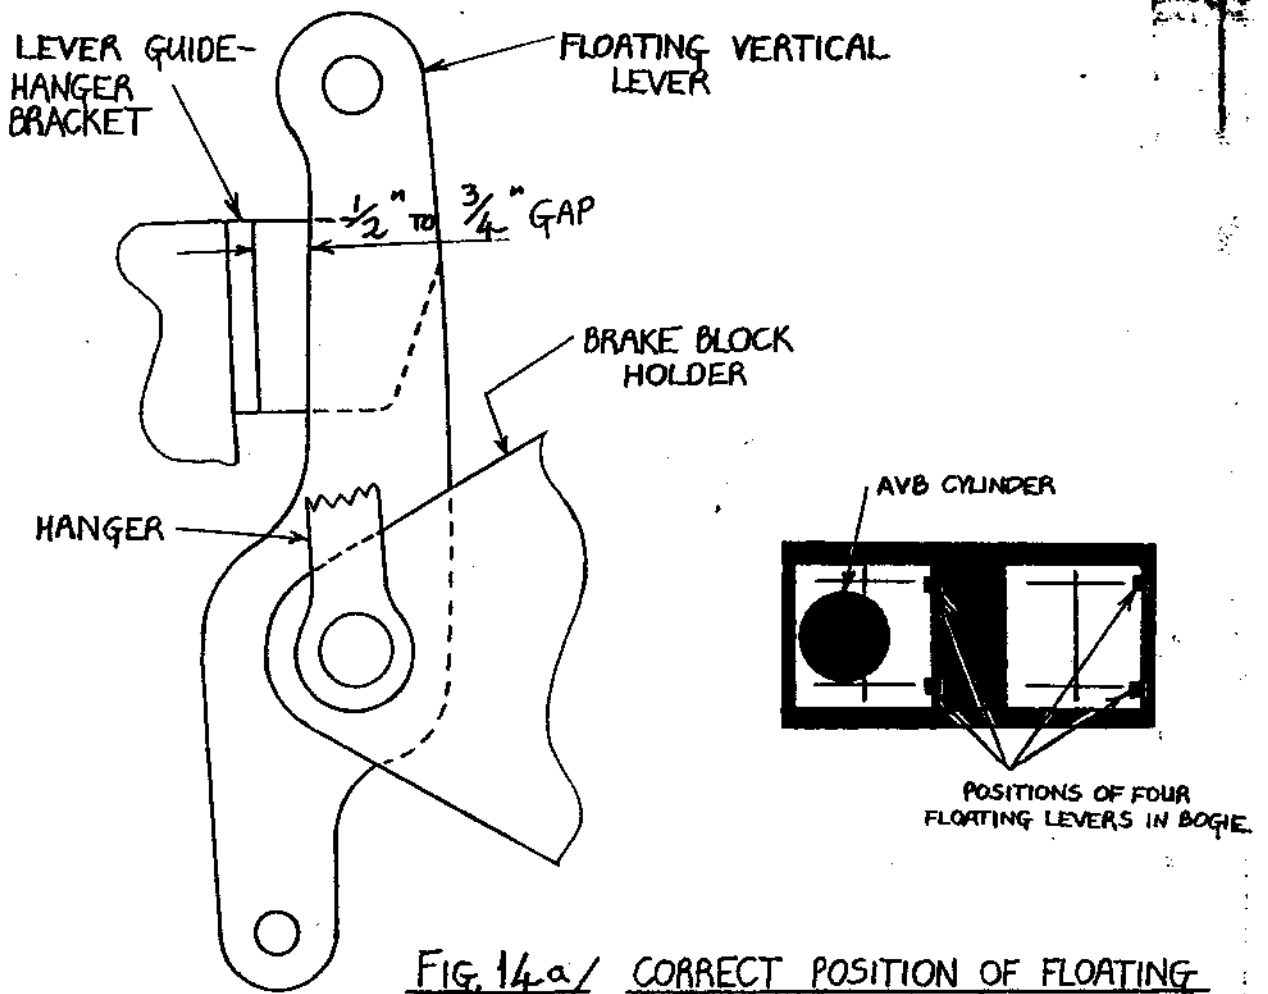

FIG. 14a/ CORRECT POSITION OF FLOATING VERTICAL LEVERS (BRAKES OFF)
- v) Move equalizing beam to a position such that 1/2" to 3/4" gap is obtained behind each floating vertical lever and its guide/hanger bracket. (see 3.0 iv.) a) and Fig. 14a) of main text).